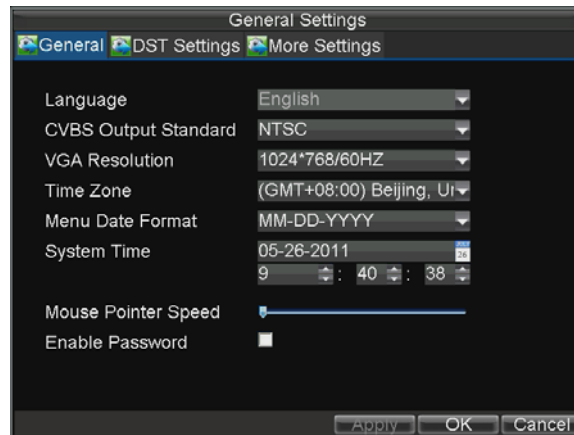

Figure2. More Settings Menu
2. Click the **More Settings** tab to enter the More Settings menu, shown in Figure 2.